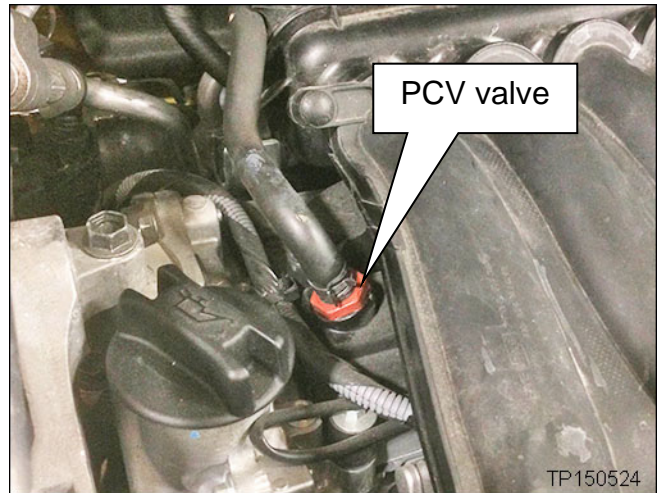

Figure 1a
- Inspect the color of the PCV valve, replace if the color is orange (see Figure 1a on page 2).
If the PCV valve is orange, as shown in Figure 1a: